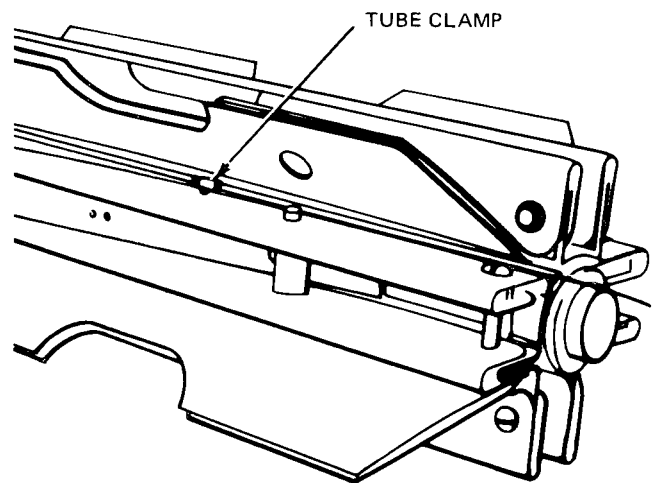
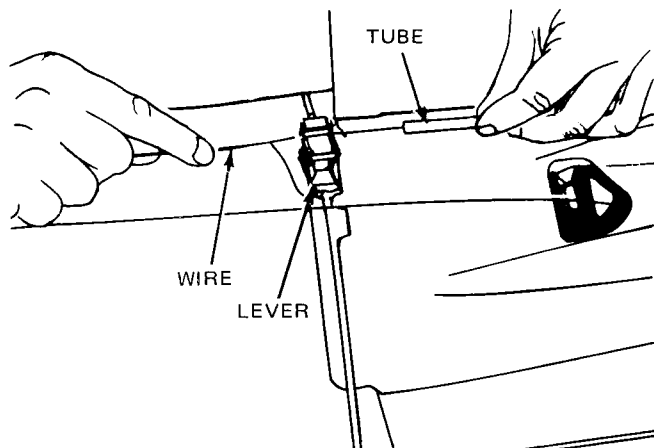

Figure 3-37. Fin Release Wire Guide Tube and Clamp Installed (Mod 1 Fin)
Figure 3-38. Installing Fin Release Wire in Guide Tube
23. On the fin MK 15 Mod 1 only, verify that tube is secured to fin with clamp (figure 3-37). Making sure that tube aligns with fin release wire holes in release band lever, insert fin release wire (0.064 inch diameter) through guide tube as shown in figure 3-38. Disregard all WARNING decals on fin concerning Fahnestock clips. If fin release wire guide tube is not available, use aluminum tubing of 1/4-inch outside diameter and 0.035 to 0.049 wall thickness. Cut to length of $27\frac{1}{8} \pm \frac{1}{16}$ inches.
14. On the fin MK 15 Mod 1, verify that tube is secured to fin with clamp (figure 3-37). Making sure that tube aligns with fin release wire holes in release
band lever, insert fin release wire (0.064 inch diameter) through guide tube as shown in figure 3-38. Disregard all WARNING decals on fin concerning Fahnestock clips. If fin release wire guide tube is not available, use aluminum tubing of 1/4-inch outside diameter and 0.035 to 0.049 wall thickness. Cut to length of $27\text{-}1/8 \pm 1/16$ inches.